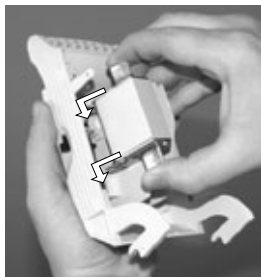

Figure 17
- Place the fuse link in a fuse holder (Figure 17);